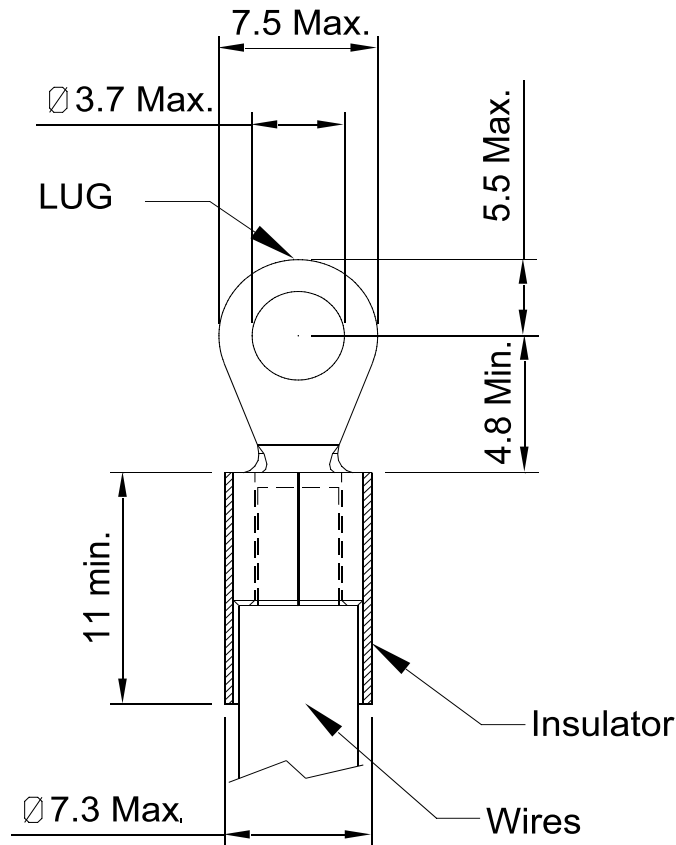

Figure 4-3
- Dimensions for LUG show as Figure 4-3 below. Recommended LUG model is SNYS2-3.7 or RNYS2-3.7 from K. S. TERMINALS INC..